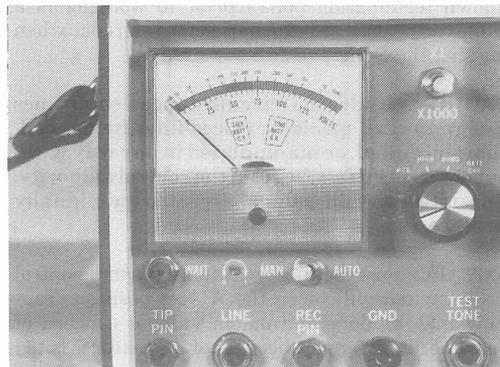

FIGURE 21
- (a) 0 Volts- Spare pair, dead or defective pair, reversed pair. (Figure 21)